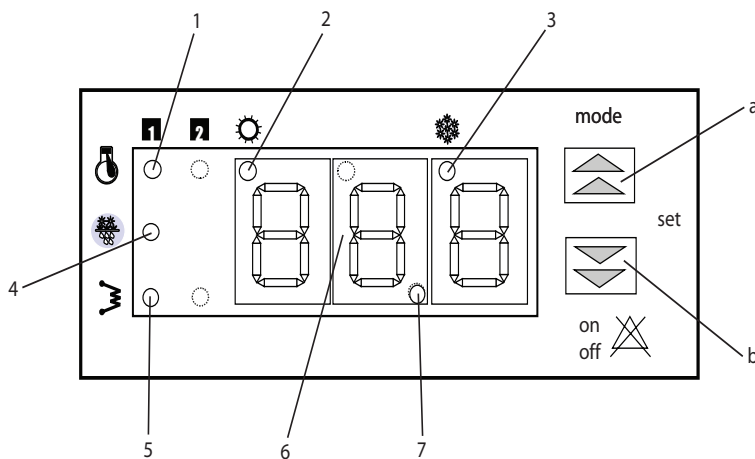

Fig 9 - Heat Pump Control Panel
6. The Ambiflo™ Heat Pump Control Panel will display '888' (Fig 9) momentarily whilst it performs a self-check and then shows the current return water temperature. If the circulation pump is not spinning, please remove the bleed screw on the pump and turn with a screwdriver to start the pump spinning.
12. Press button 'b' (Fig 9) to switch the Heat pump and circulating pumps off.